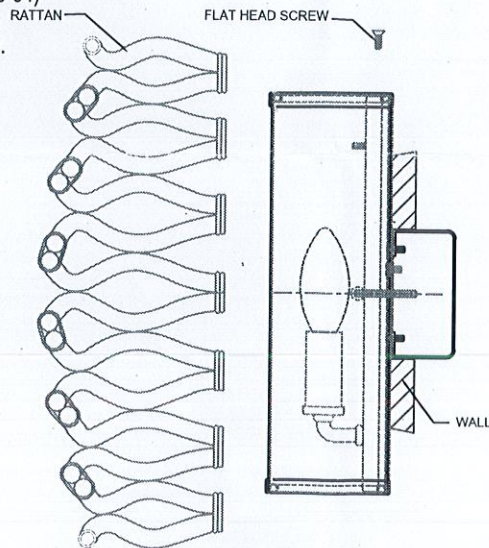

FIGURE-04
8. Slide the rattan shade to the fixture. (See Figure-04)